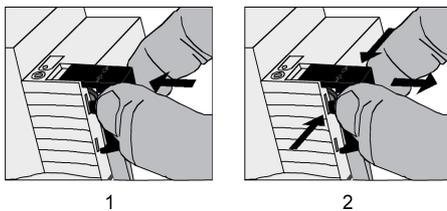

Figure 3
- o To install the cap: slide the cap over the bus terminal until you feel it engage (Figure 3).
- o To remove the cap: Remove the cap by pressing the sides slightly and by pulling it out to the front (Figure 3).